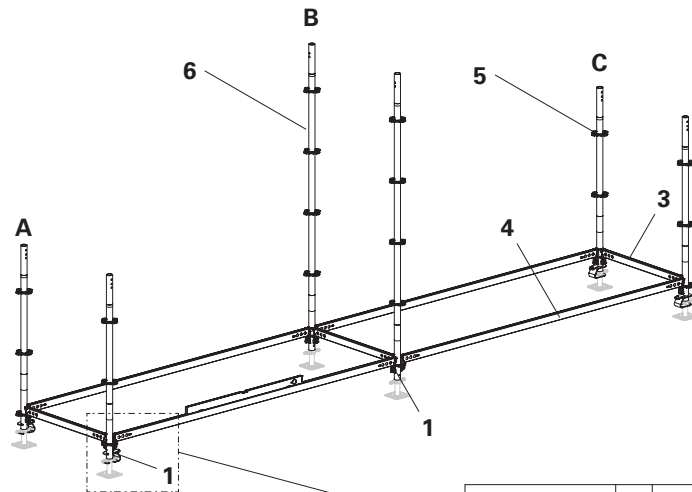
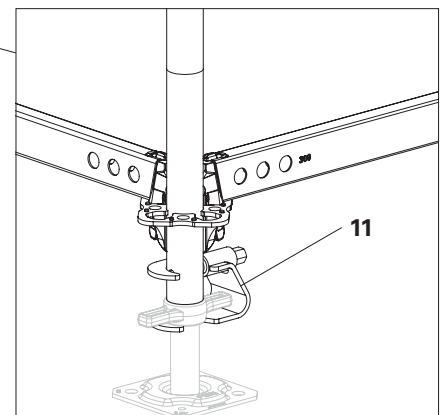

Fig. A1.02
Fig. A1.02a
- In the case of a span of 6 m: Fit the Top Standards UVH-2 100 (**5**) onto the edge frame columns (**A + C**). (Fig. A1.02)
5. Securely fix the wedges of Horizontal Ledgers UH-2 (**3+ 4**) in position with a jarring blow using a hammer. (Fig. A1.02 + Fig. A1.02a)